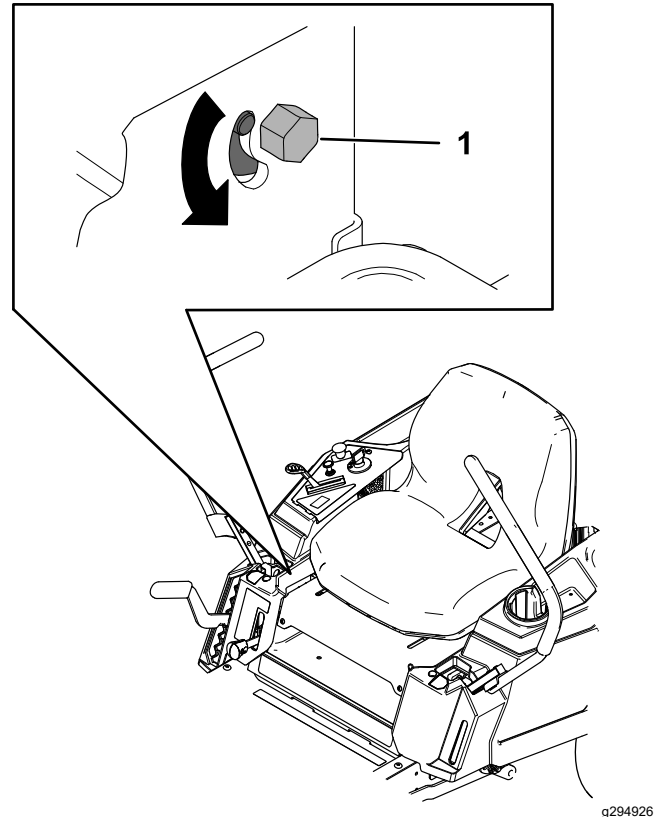

Figure 57
3. Locate the tracking-adjustment bolt near the motion-control lever on the particular side that needs adjusting (Figure 57).